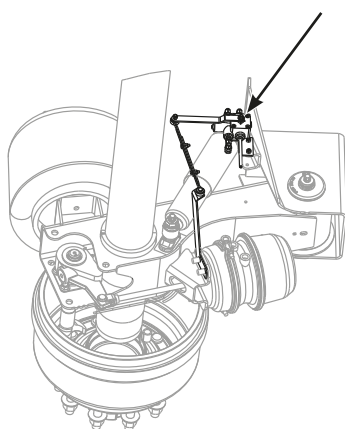

Figure 10: Brake Chamber Bracket
- Fixed to the brake chamber bracket (Refer to Figure 10)